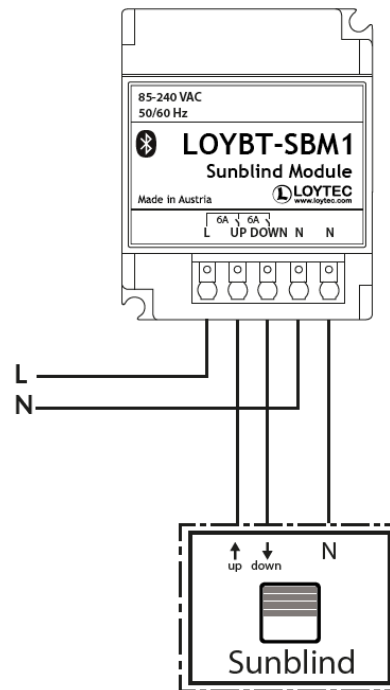

Figure 23: LOYBT-SBM1 module for control of a single sunblind motor
The LOYBT-SBM1 is suited to control a single sunblind-motor, which is controlled by switching mains voltage to separate inputs for moving up and down (Figure 23).
- For wiring refer to the installation sheet or Figure 23.